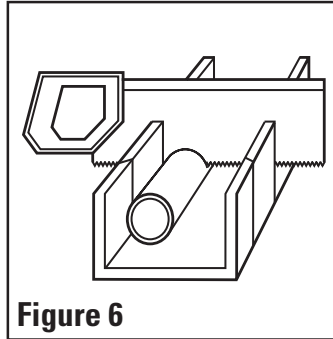

Figure 6
3. Cut the tubing, taking care to keep the straight square edge. The use of a miter box is recommended (**Figure 6**).
2. Cut the tubing, taking care to keep the straight square edge. The use of a miter box is recommended (**Figure 6**).